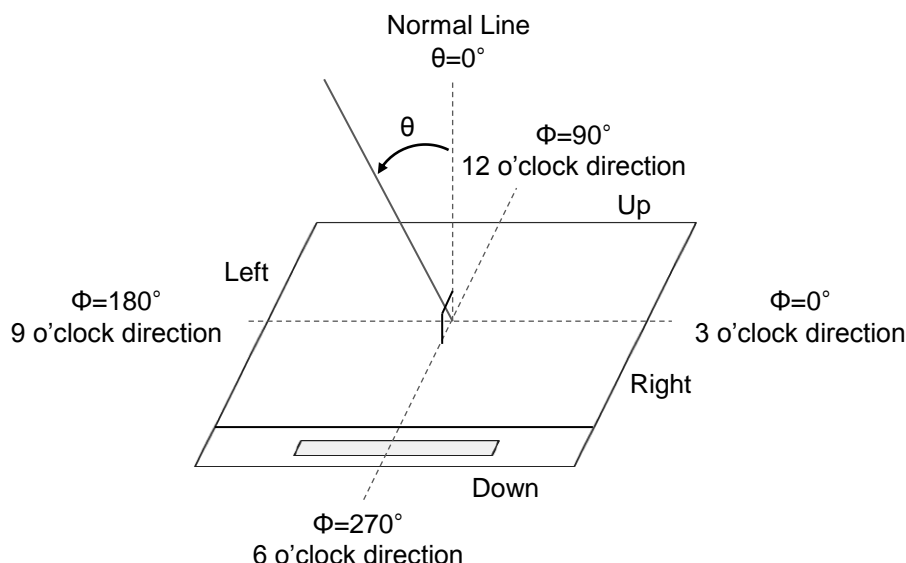

Fig.1 Viewing angle measurement setup
Note 1. Viewing angle is the angle at which the contrast ratio is greater than 10. The viewing angles are determined for the horizontal or 3, 9 o'clock direction and the vertical or 6, 12 o'clock direction with respect to the optical axis which is normal to the LCD surface (FIGURE 1).
Note 2. Contrast ratio measurements shall be made at viewing angle of $\theta=0^\circ$ and at the center of the LCD surface. Luminance shall be measured with all pixels in the view field set first to white, then to the dark (black) state (FIGURE 1). Contrast Ratio (CR) is defined mathematically.